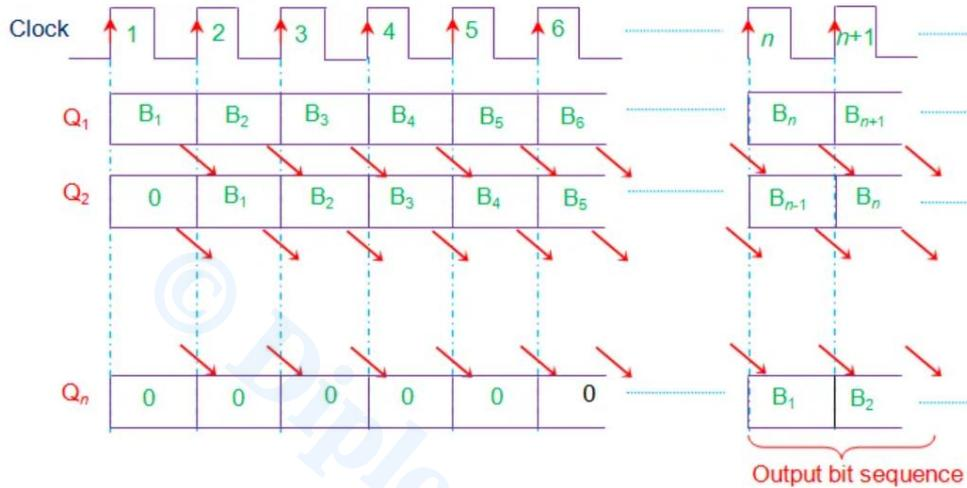

Fig. 4.25: Waveform of SISO Right Shift Register
**SISO Right Shift Register** is explained by below waveforms shown in Fig. 4.25. It can be seen that the first bit (LSB) of the data input takes n-clock cycles to get pushed to the output of  $n^{\text{th}}$  FF. After n-cycles, every input bit can be received in every clock cycle, so MSB will be received after  $(2n-1)$  cycles.